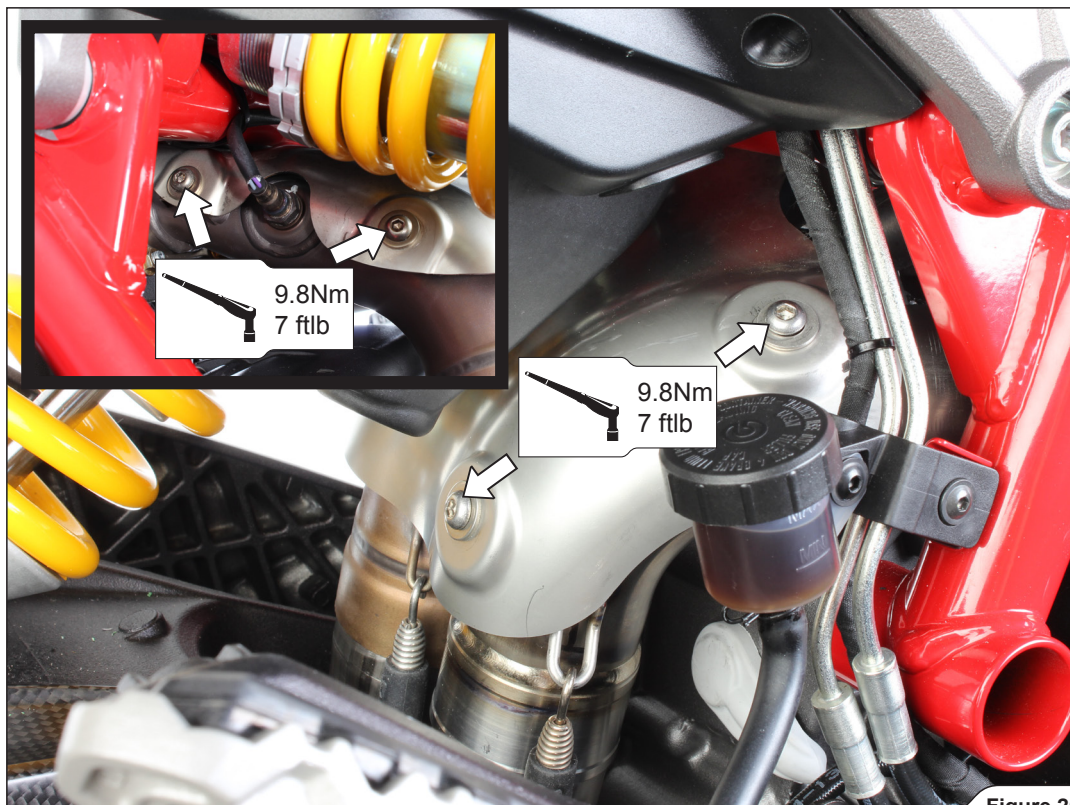

Figure 26
- Install the rear stock heat shield, using stock bolts and washers (Figure 26).